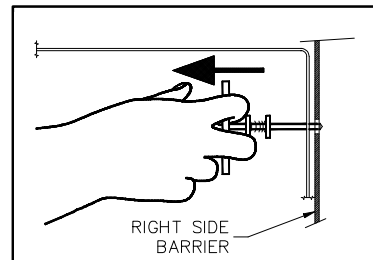

FIGURE 3-3: UNLATCH FRONT PLATFORM SECTION
- 3) Refer to **Figure 3-3**. Unlatch front platform section by pulling platform release T-handle (located at right side of platform) to the left.
- 3) Refer to **Figures 3-3** and **3-4**. Grasp front edge of outer platform section and lift to vertical position. Shift grasp to front section handle (protruding through left side of section) and finish folding section rearward. Observe that platform section release T-handle (located at right side of platform) has securely engaged hole in right side barrier.